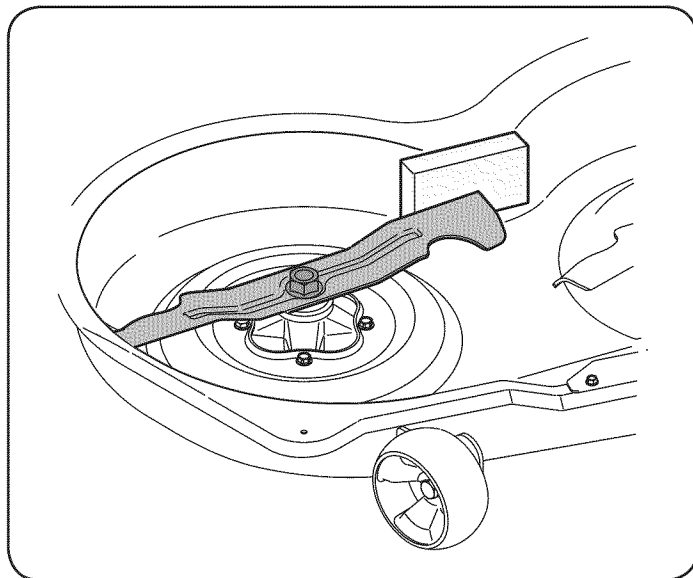

Figure 23
2. Place a block of wood between the center deck housing baffle and the cutting blade to act as a stabilizer. See Fig. 23.
3. Remove the hex flange nut that secures the blade to the spindle assembly. See Fig. 23.